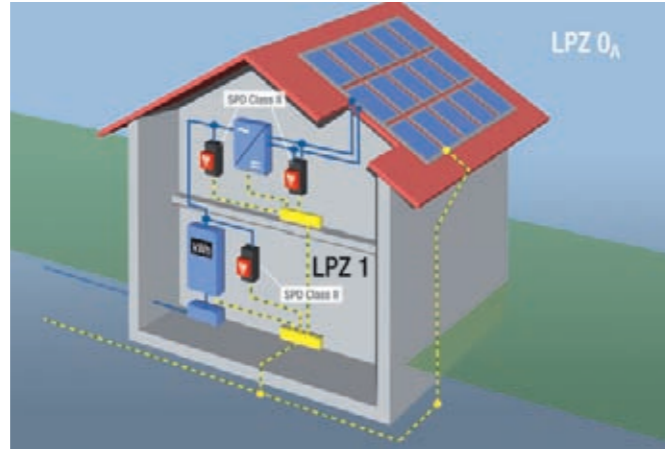

Figure 1: Schematic diagram from standard IEC 60364-7-712:2002
The photovoltaic (PV) is an elementary pillar of power generation in the field of renewable or rather regenerative energy. That does not just apply to Germany; Southern Europe and North America are equally important export markets. For the installation of photovoltaic systems the standard standard IEC 60364-7-712:2002 [1] has been applicable since June 2006. This is a harmonised European standard, which means it is a HD document. Its transitional period ended on 1st March 2008; as a consequence the standard is in force and must be applied. This standard contains information relating to overvoltage protective devices and lightning protection. It does not explicitly require surge voltage protection; however, it is recommended (Figure 1). Equally, the standard points out that when lightning protection is deployed the PV system must be protected by an isolated air-termination system – and the separation distance must be maintained.